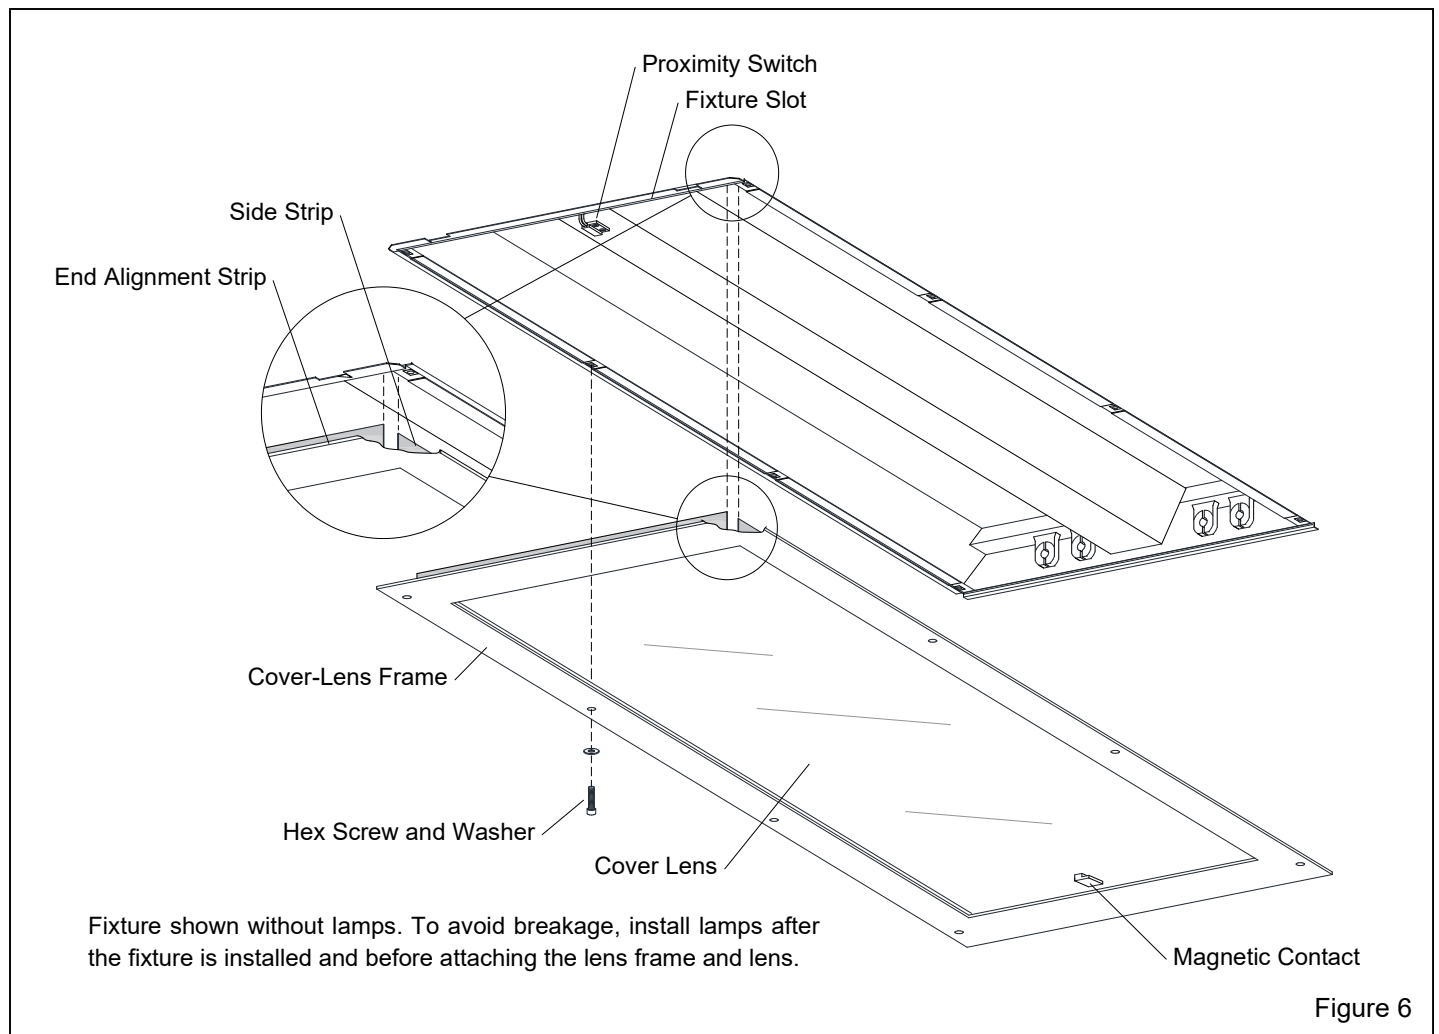

Figure 6
5.0 Secure Cover-Lens Frame and Lens to Fixture – Figure 6
5.1 Note the positions of the proximity switch and magnetic contact, as shown in Figure 6, and place the fixture cover onto the fixture so the contact is on the opposite end from the switch.